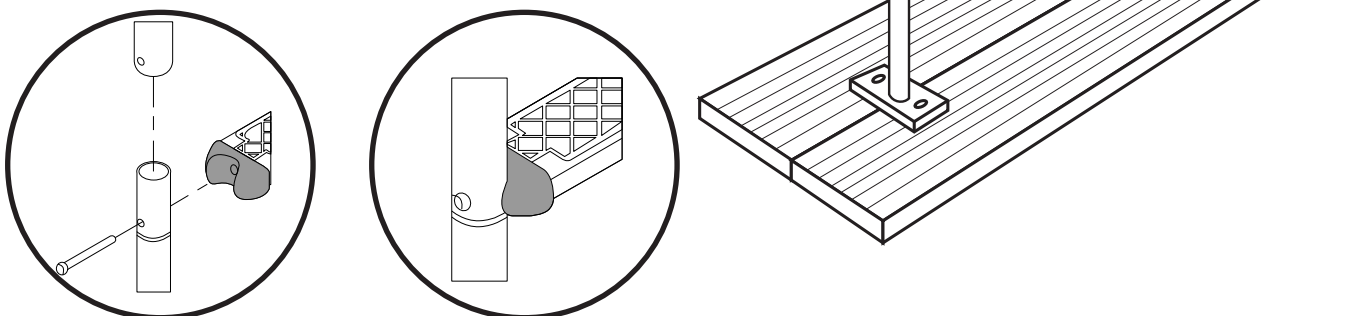
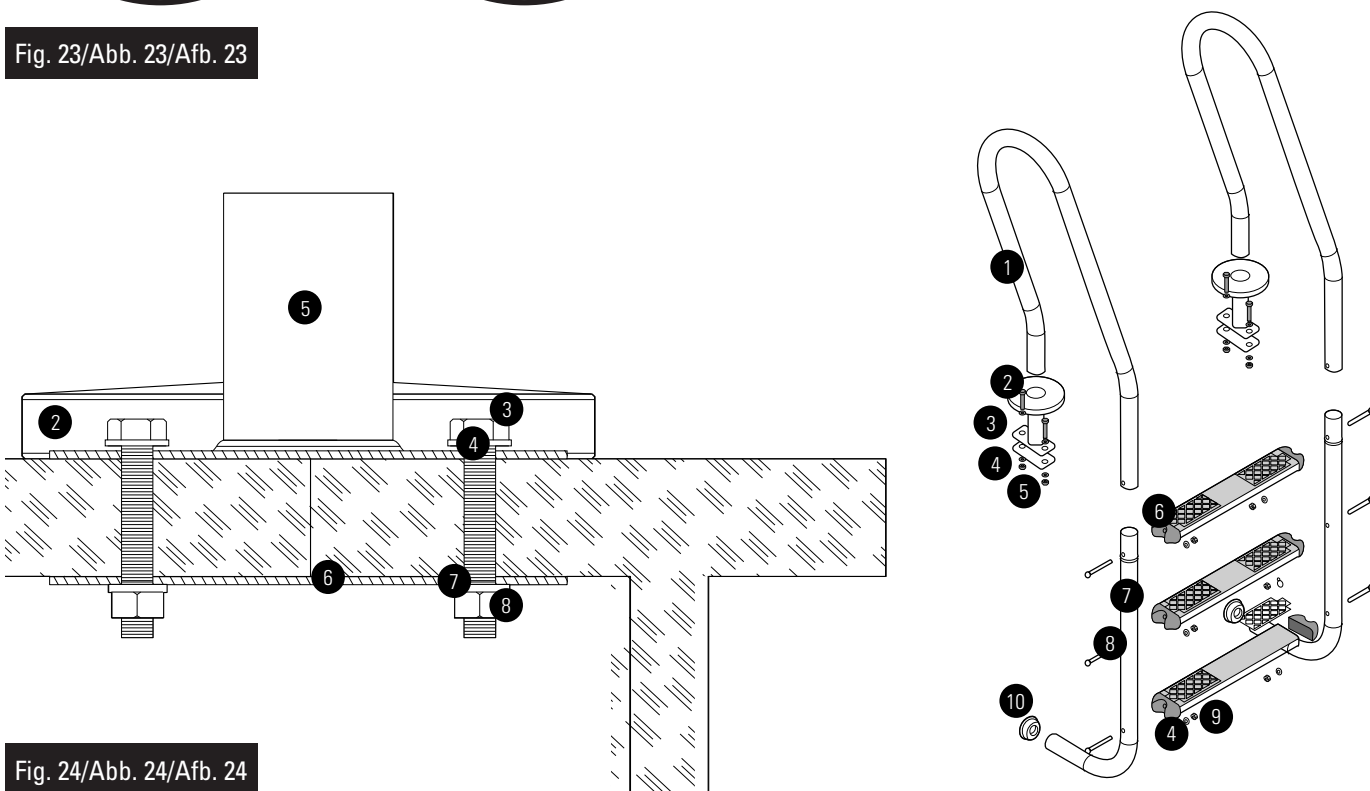

Fig. 23/Abb. 23/Afb. 23
Fig. 24/Abb. 24/Afb. 24
- EN **A.-** Slot in the upper (1) and lower (10) handrails, fasten them with the steps (9) and the steps to the handrails using screws (11), nuts (8) and washers (7). (Fig.23)
- B.- Assemble the end pieces (12) of the handrail so that the ladder cannot damage the pool.
- D.- Place against flange with the screws (3) and washers (4,7) and nuts (8) and fasten with spanner 12-13. (Fig.24)
- E.- Insert the trim (2).